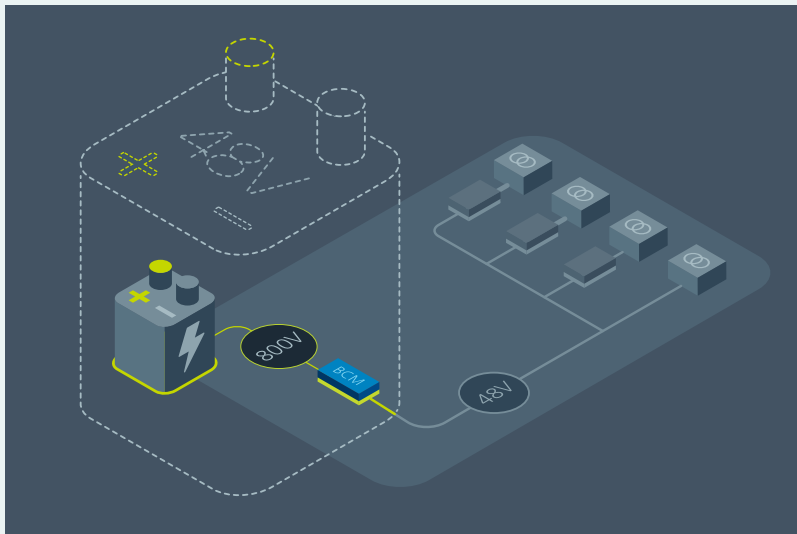

Figure 6: Power delivery network for 800V EV battery power conversion
The schematic in Figure 6 also applies to power distribution networks where a motor drive such is powered by a bidirectional converter, such as our example in Figure 8. Regenerating energy can raise the voltage on both the low voltage and high voltage terminals proportional to  $Z_{OUT}$  through the converter. If the converter is unidirectional this regenerative energy is blocked and only the output capacitor  $C_{OUT}$  is charged. So the regenerative energy and its resulting voltage rises should be limited if possible to stay within the maximum output voltage specification of the converters and  $C_{OUT}$ , or a brake-circuit can be implemented to absorb the energy.
Similar to the AI processor need, when approached to develop a high-density electric vehicle (EV) battery PDN, Vicor was able to quickly configure a SAC-topology-based module to meet those needs (Figure 6). EVs require a 48V rail to support non-motor loads within the vehicle from the primary battery in addition to requiring a chassis-mounted package. Conventional solutions to provide 48V from the 800V battery in an efficient and lightweight manner were limited.